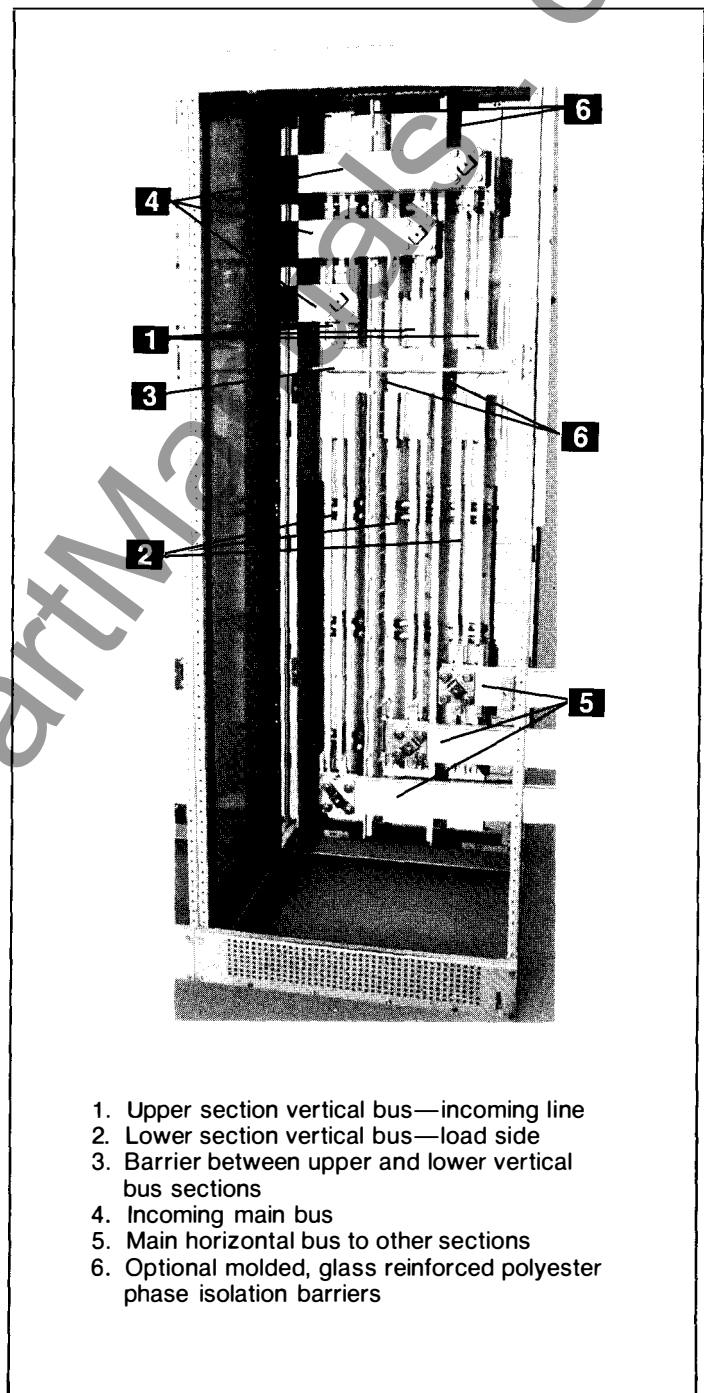

Fig. 3-23. Main breaker bus arrangement
The typical arrangement with an all-welded aluminum bus is shown in Fig. 3-23. Bolts at bus joints are used only for mechanical support or at connections which must be made in the field. The bolts present on welded aluminum joints are only for supporting and positioning bus bars prior to welding. Once the joints are welded, these bolts perform no further function. However, it is recommended that the bolts be left in place.
On main and tie breakers, the bus area, Fig. 3-23, is divided into an upper (1) and lower (2) section by a glass reinforced polyester isolation barrier (3). For the main circuit breakers, the upper section contains the incoming line bus (1). This bus is fed from the bus connections (4) in the transition section. The lower section of the bus area contains the load side main bus (5) (protected by the main breaker) which feeds all sections of the switchgear equipment. Similarly, barriers at tie breakers isolate the two main bus sections from each other.